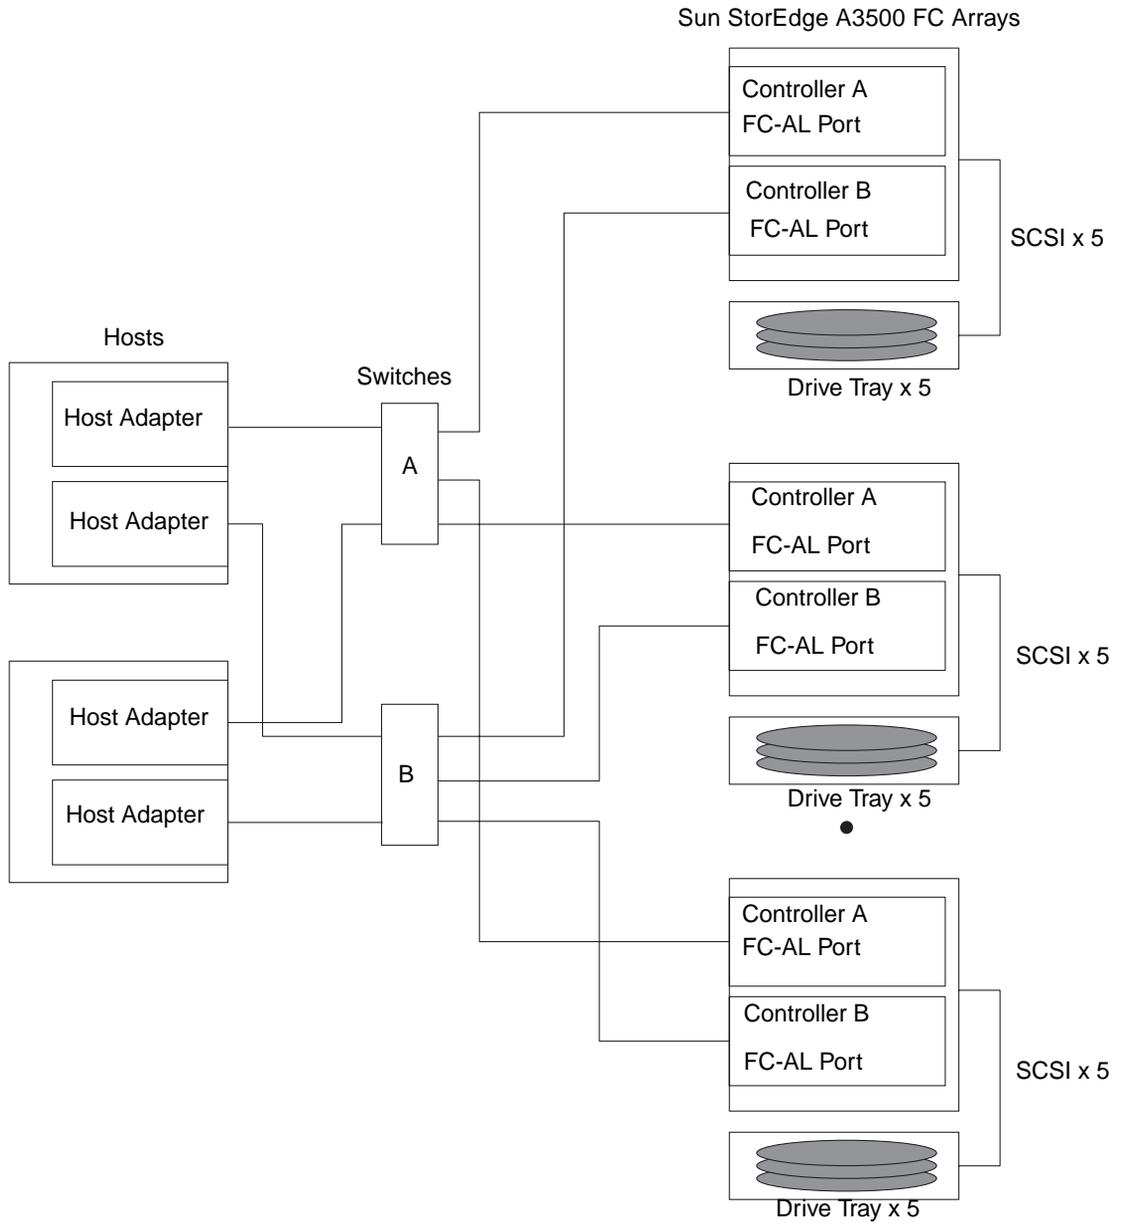

FIGURE 7-6 Sample StorEdge A3500FC Array SAN Configuration
FIGURE 7-6 shows a sample SAN hardware configuration when using two hosts and four StorEdge A3500FC arrays. All switch ports are defined as the segmented loop (SL) type, as required. See the *Sun StorEdge Network FC Switch-8 and Switch-16 Installation and Configuration Guide, Sun SAN 3.0* for details.